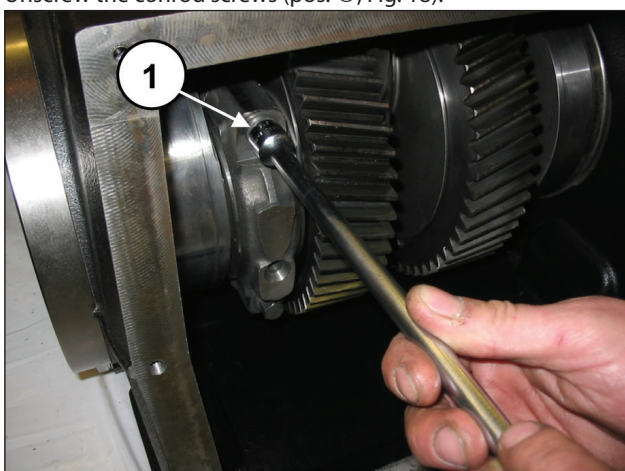

Fig. 18
Unscrew the conrod screws (pos. ①, Fig. 18).